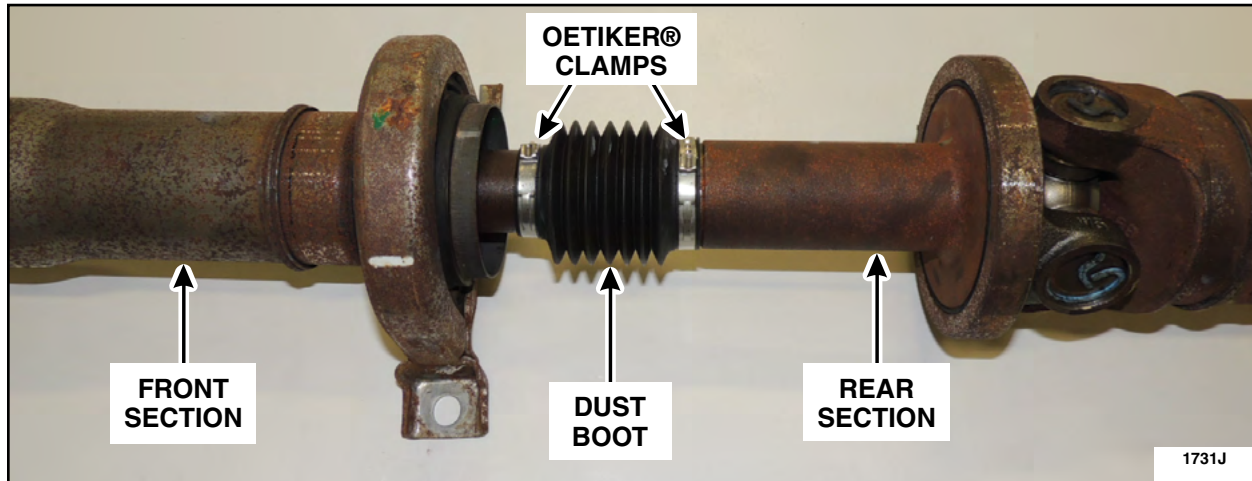

FIGURE 16
1. Separate the driveshaft front and rear sections at the driveshaft slip yoke. See Figure 16.
2. Install a *new* driveshaft front section onto the rear section. See Figures 16 and 17.